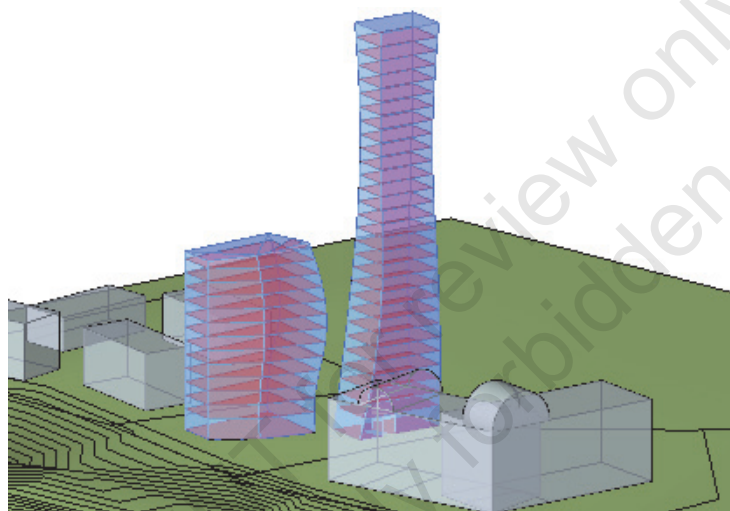

Figure 1–97
4. Select all of the levels in the Mass Floors dialog box and click **OK**. The new mass floors display as shown in Figure 1–97. Hint: Use <Shift> to select all the levels, then check one check box to check them all.